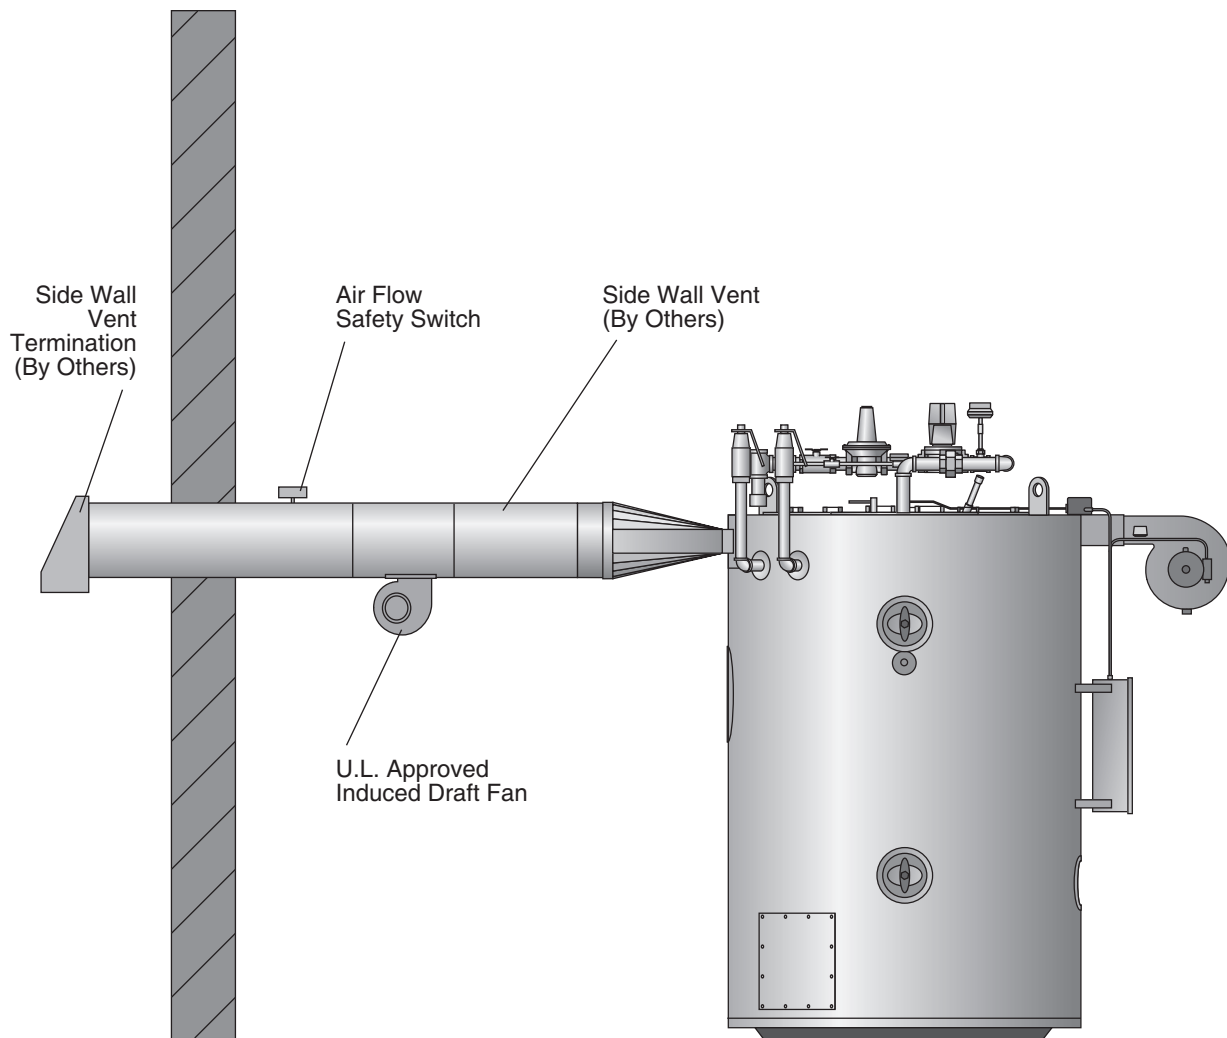

FIGURE 3 - TYPICAL SIDEWALL VENTING
8. The installation of a draft regulator by the client/contractor is recommended at all installations. This will help to maintain the required draft. The placement of the draft regulator should be as shown in Figure 3. Insulate the section of the chimney duct within the building.